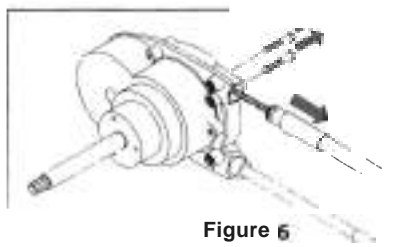

Figure 6
**STEP 1.** Disconnect the cable body from helm by removing the two retaining bolts in the back of the helm (See Figure 6)